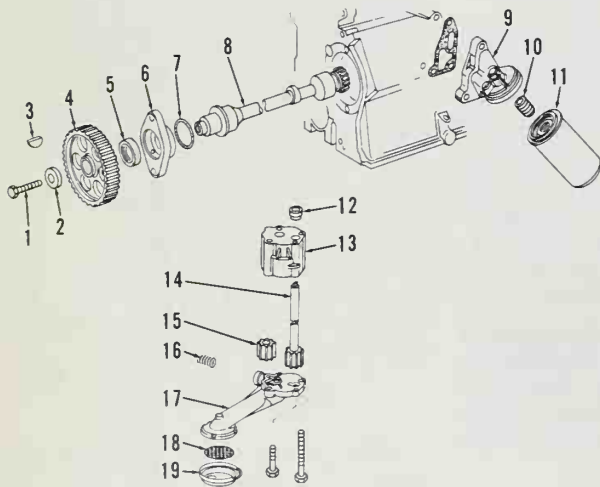

Fig. V1-13—Exploded view of intermediate shaft and oil pump assemblies.
R&R AND OVERHAUL. The oil pump is driven by intermediate shaft (8—Fig. V1-13) gear and a gear coupled to oil pump drive shaft (14). To remove oil pump, remove oil pan and unscrew oil pump mounting screws.